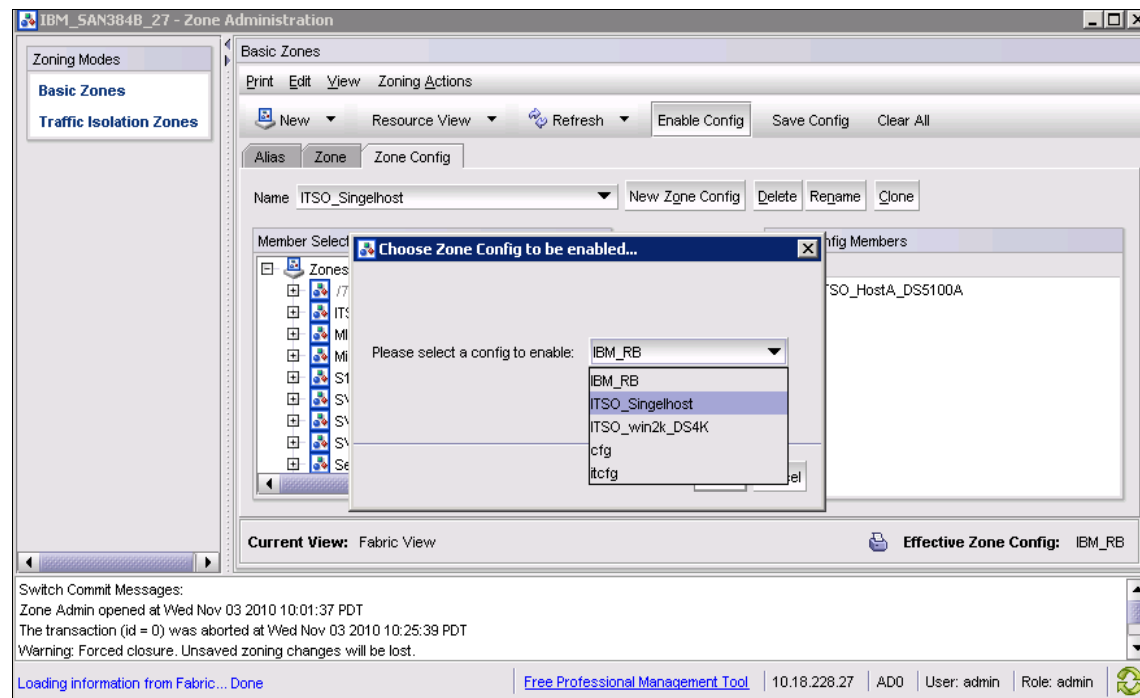

Figure 12-39 Choosing the right config to enable
2. Select the zone configuration to be enabled from the drop-down menu and click **OK**, as shown in Figure 12-39.